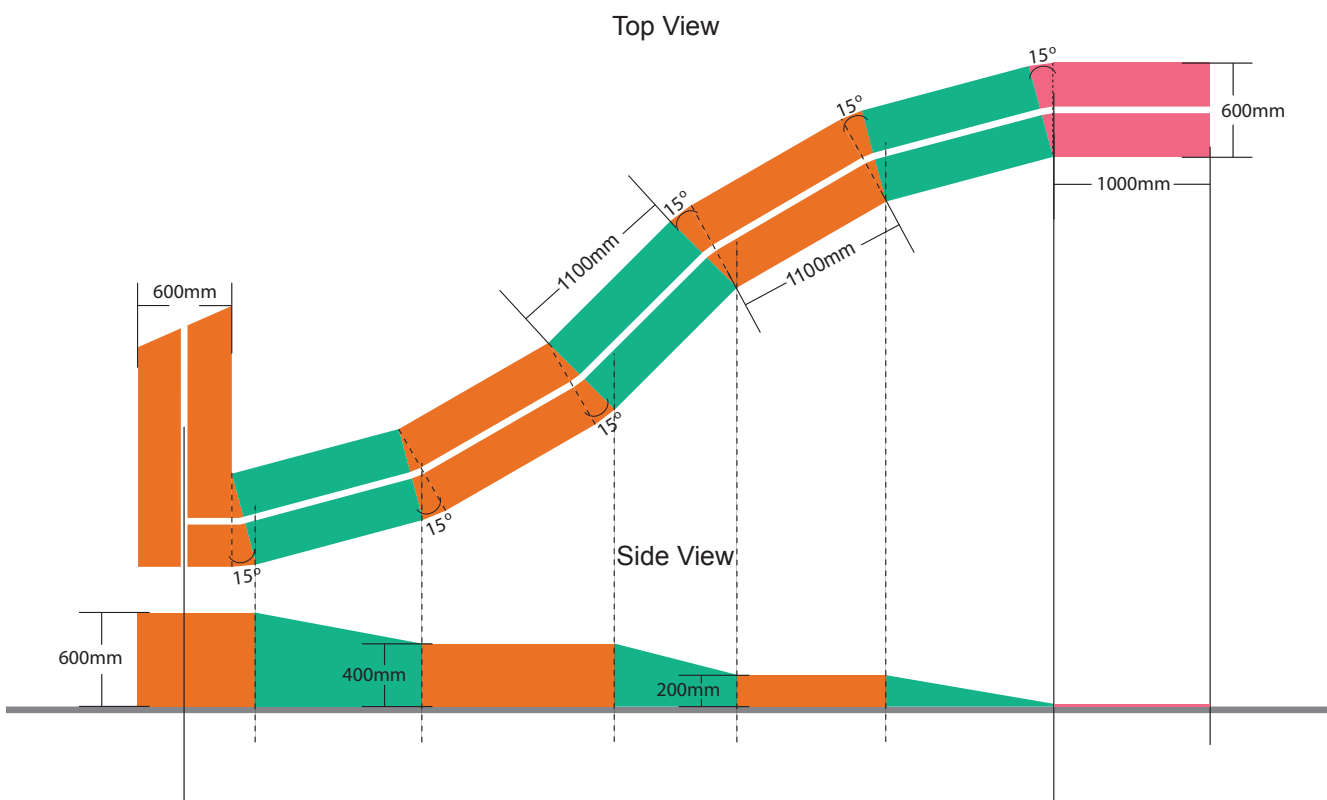

Figure 2: Slopes and Hills
10.3.3 “3 Slopes and Hills” are parts of Eco Robot’s traveling path having the width of 600 mm. There are 3 sets of Slope and Hill. (Figures 2)